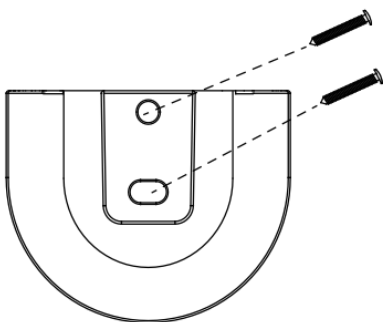

Fig. 14a
- Locate a suitable wall to fix the remote control holder with the 2 screws. (Fig. 14a).